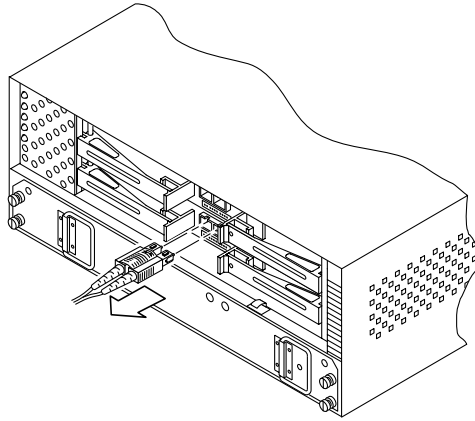

FIGURE 6-1 Disconnecting a Fibre Optic Cable
4. **Remove and disconnect the defective cable (FIGURE 6-1).**